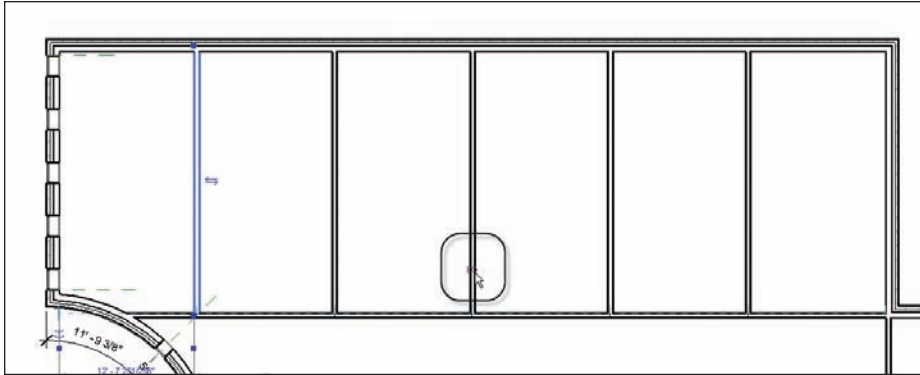

FIGURE 5.33 Activating the dimensions
6. On the Options bar, select the Activate Dimensions button, as shown in Figure 5.33.
TIP Notice in Figure 5.33 the anchor icon to the left of the dimensions. You use this icon to determine which wall will remain stationary. You can move the anchor icon to any of the items involved in the constraint. For example, if you click and drag the anchor to the middle partition, then move one of the exterior walls, the middle partition will stay in place while the other walls move an equal distance to the right and left of the anchored wall.